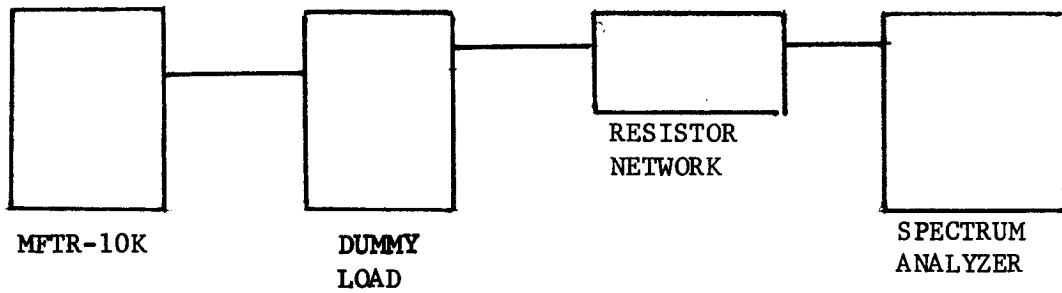

FIG. 1
1. Connect test equipment as per Fig. 1